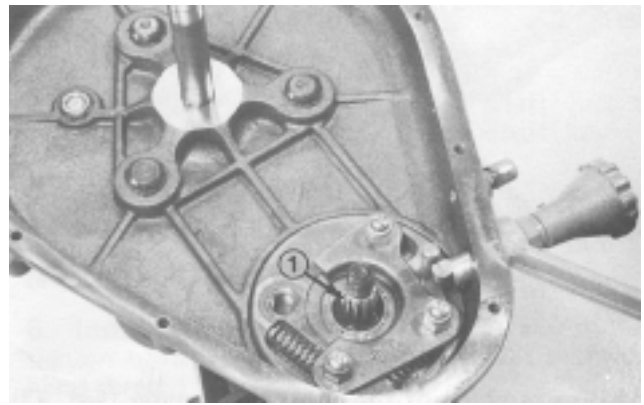

Figure 24
11. (Left end) Remove nut securing pinion gear to reel shaft and slide gear off splined shaft (Fig. 24).